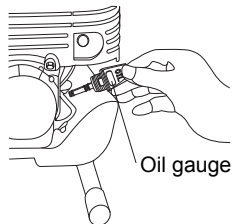

Figure 2
- b. Engine oil inspection. Set the engine in a level position, remove the oil cap, and inspect to see whether the oil level is up to the bottom of the oil port (Figure 2, 3). If the oil level is too low, add new oil until the level reaches the bottom of the oil port.